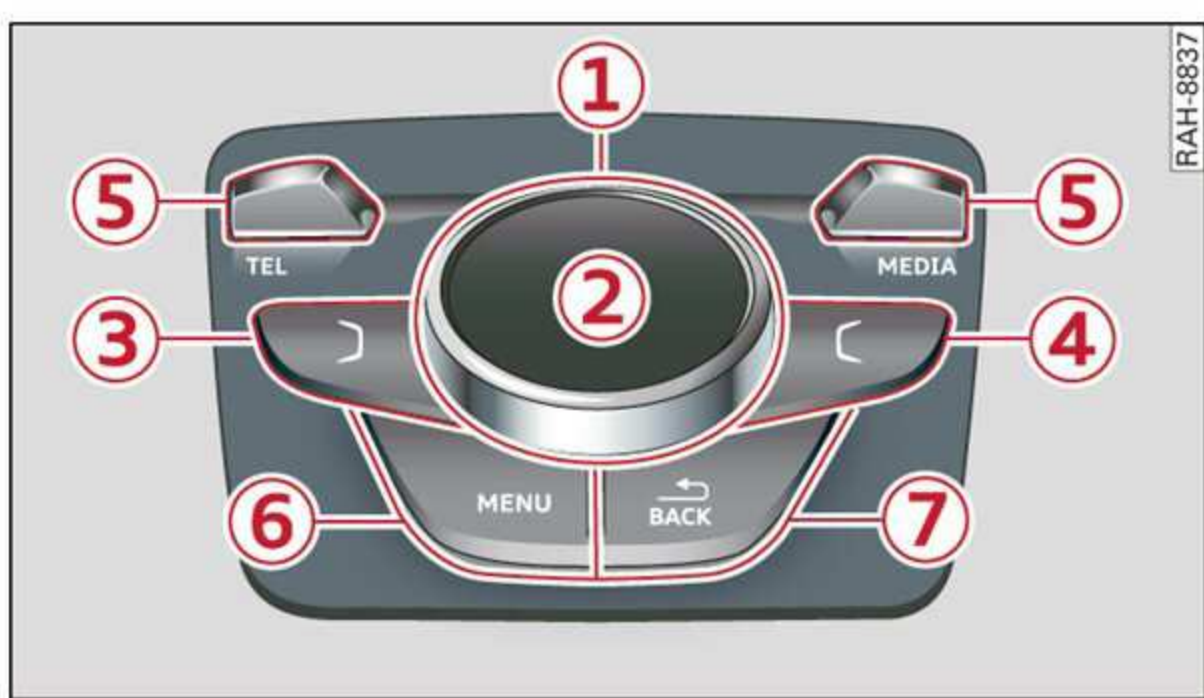
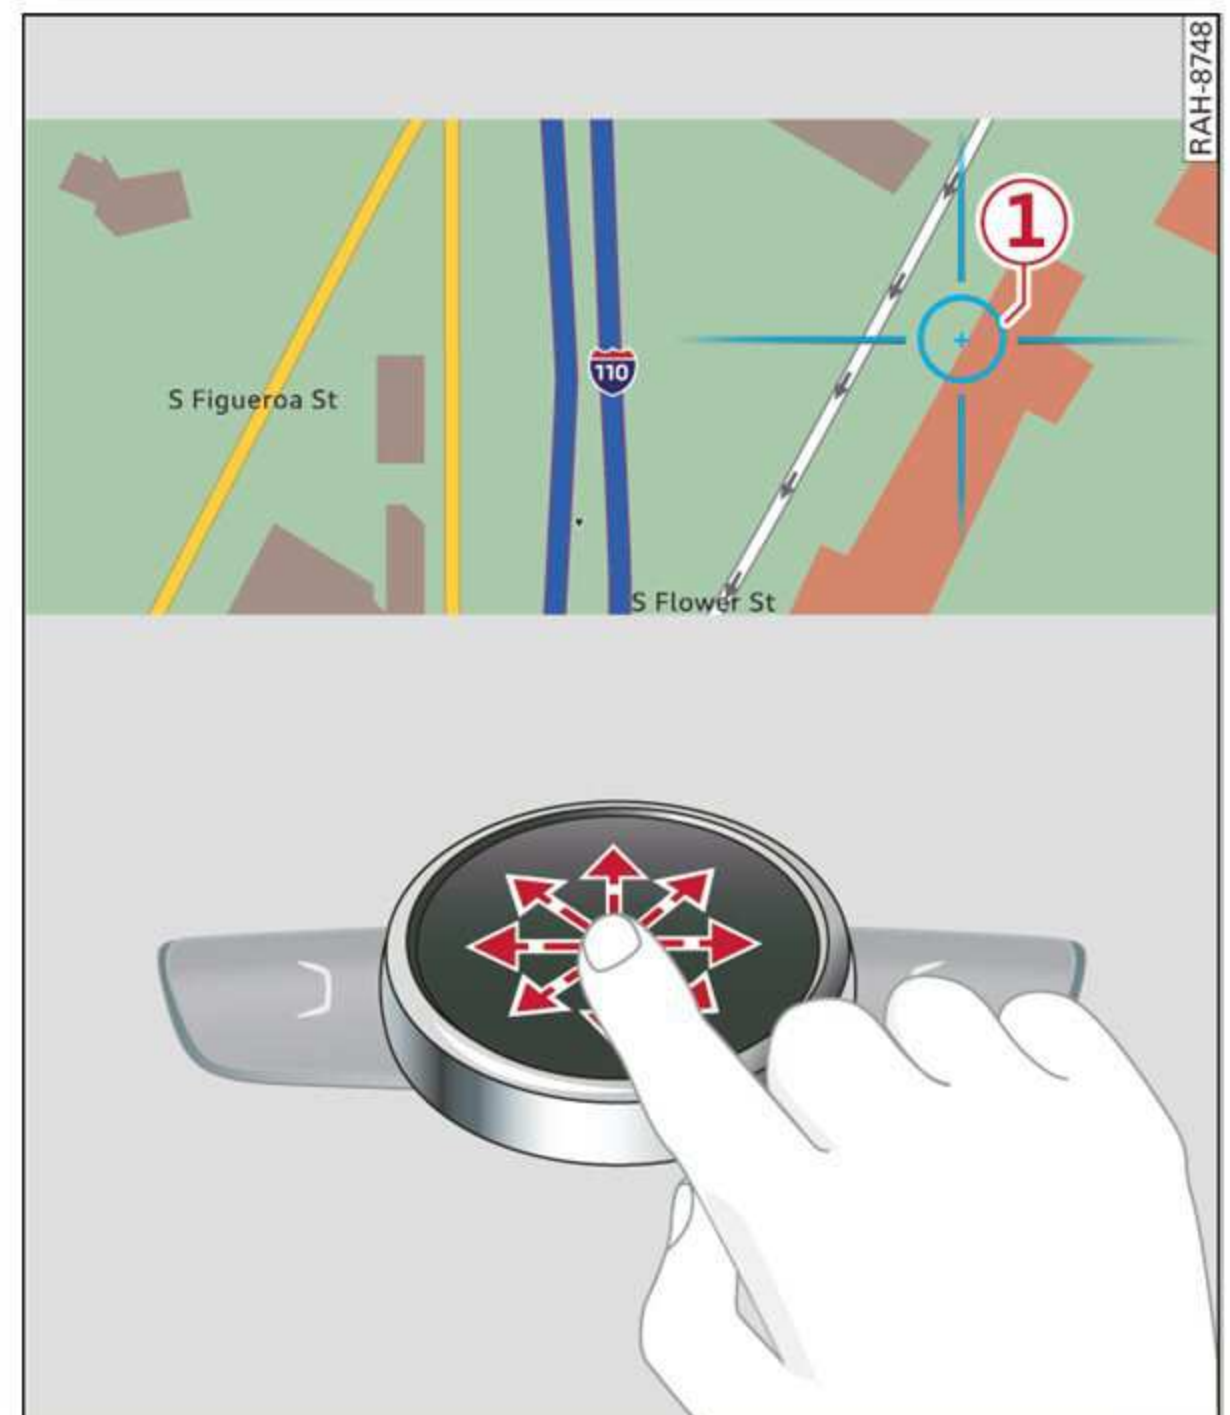

Fig. 93 MMI control panel
Fig. 100 Moving the crosshairs
- **Switching on manually:** press the On/Off knob ① briefly ⇒ fig. 94. Or: press the **MENU** button ⑥ ⇒ page 92, fig. 93 or one of the buttons to directly open the menus ⑤ ⇒ page 92, fig. 93.
- ▶ Press the **BACK** button **7** ⇒ *page 92, fig. 93*.
- ▶ Press the **MENU** button **6** ⇒ *page 92, fig. 93*. The MMI menus (such as **Radio**) are displayed ⇒ *fig. 96*. Then you can select and confirm a function using the control knob.
- ▶ Press the applicable button to directly open the menus **5** ⇒ *page 92, fig. 93* in the direction of the desired menu (such as **RADIO**). Then you can select and confirm a function using the control knob.
The MMI touch control pad  ⇒ *page 92, fig. 93* is located on the control knob  ⇒ *page 92, fig. 93*.
- **Showing/hiding the crosshairs:** press the control knob to show the crosshairs ① ⇒ *fig. 100*. Press the **BACK** button ⑦ ⇒ *page 92, fig. 93* to hide the crosshairs again.
- **Moving the crosshairs on a map:** move the crosshairs shown in the desired direction using your finger on the MMI touch control pad ⇒ *fig. 100*.
- **Moving the crosshairs quickly:** when the crosshairs are visible ① ⇒ *fig. 100*, slide your finger quickly across the MMI touch control pad in the desired direction ⇒ *fig. 100*. The crosshairs will come to a stop after several seconds.